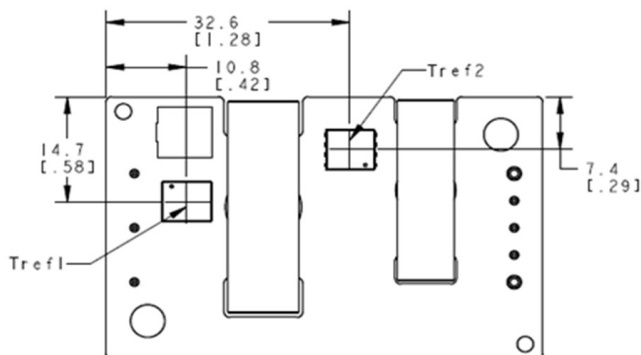

Figure 13.  $T_{ref}$  Temperature Measurement Location for open frame version.
To provide protection under certain fault conditions, the unit is equipped with a thermal shutdown circuit. The unit will shutdown if the thermal reference point  $T_{ref}$  (Figure 13), exceeds 135°C (typical), but the thermal shutdown is not intended as a guarantee that the unit will survive temperatures beyond its rating. The module will automatically restart upon cool-down to a safe temperature.
The thermal reference points,  $T_{ref1}$ , and  $T_{ref2}$  used in the specifications for open frame modules are shown in Figure 13. For reliable operation these temperatures should not exceed 124°C & 124°C respectively.